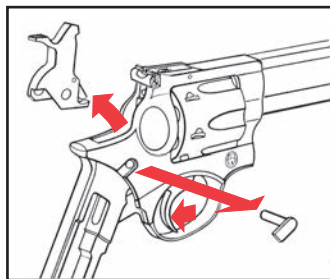

Figure 7
5. Pull trigger and remove hammer pivot while holding trigger in a rearward position. Lift hammer out of the top of the frame while trigger is held in a rearward position (see Figure 7).